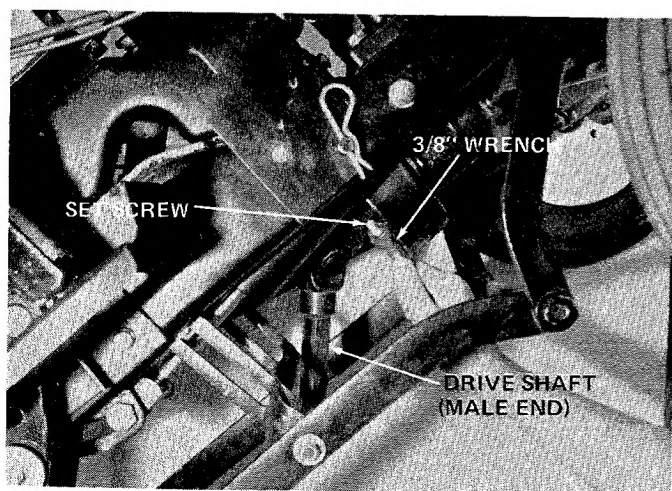

FIGURE 19
2. Slip male end of drive shaft over tractor P.T.O. There are two set screws. Tighten both with 3/8" open end wrench. See figure 19. Tractor was elevated for photo clarity. Tractor does not have to be raised to install drive shaft.